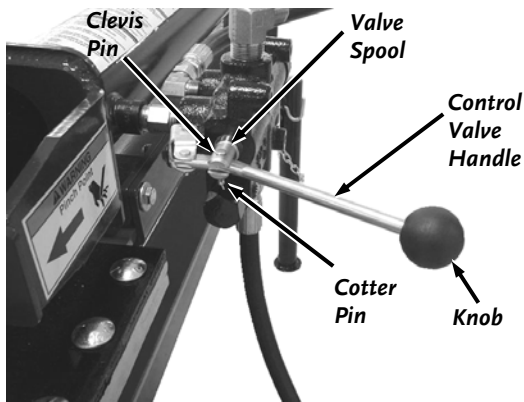

Figure 17
16. Attach the control valve handle to the valve spool (**Figure 17**) using a 1/4 x 1 inch long clevis pin (install clevis pin from the top). Secure the clevis pin with a cotter pin (bend the ends of the cotter pin to make it secure). Attach the knob to the control valve handle, if necessary.